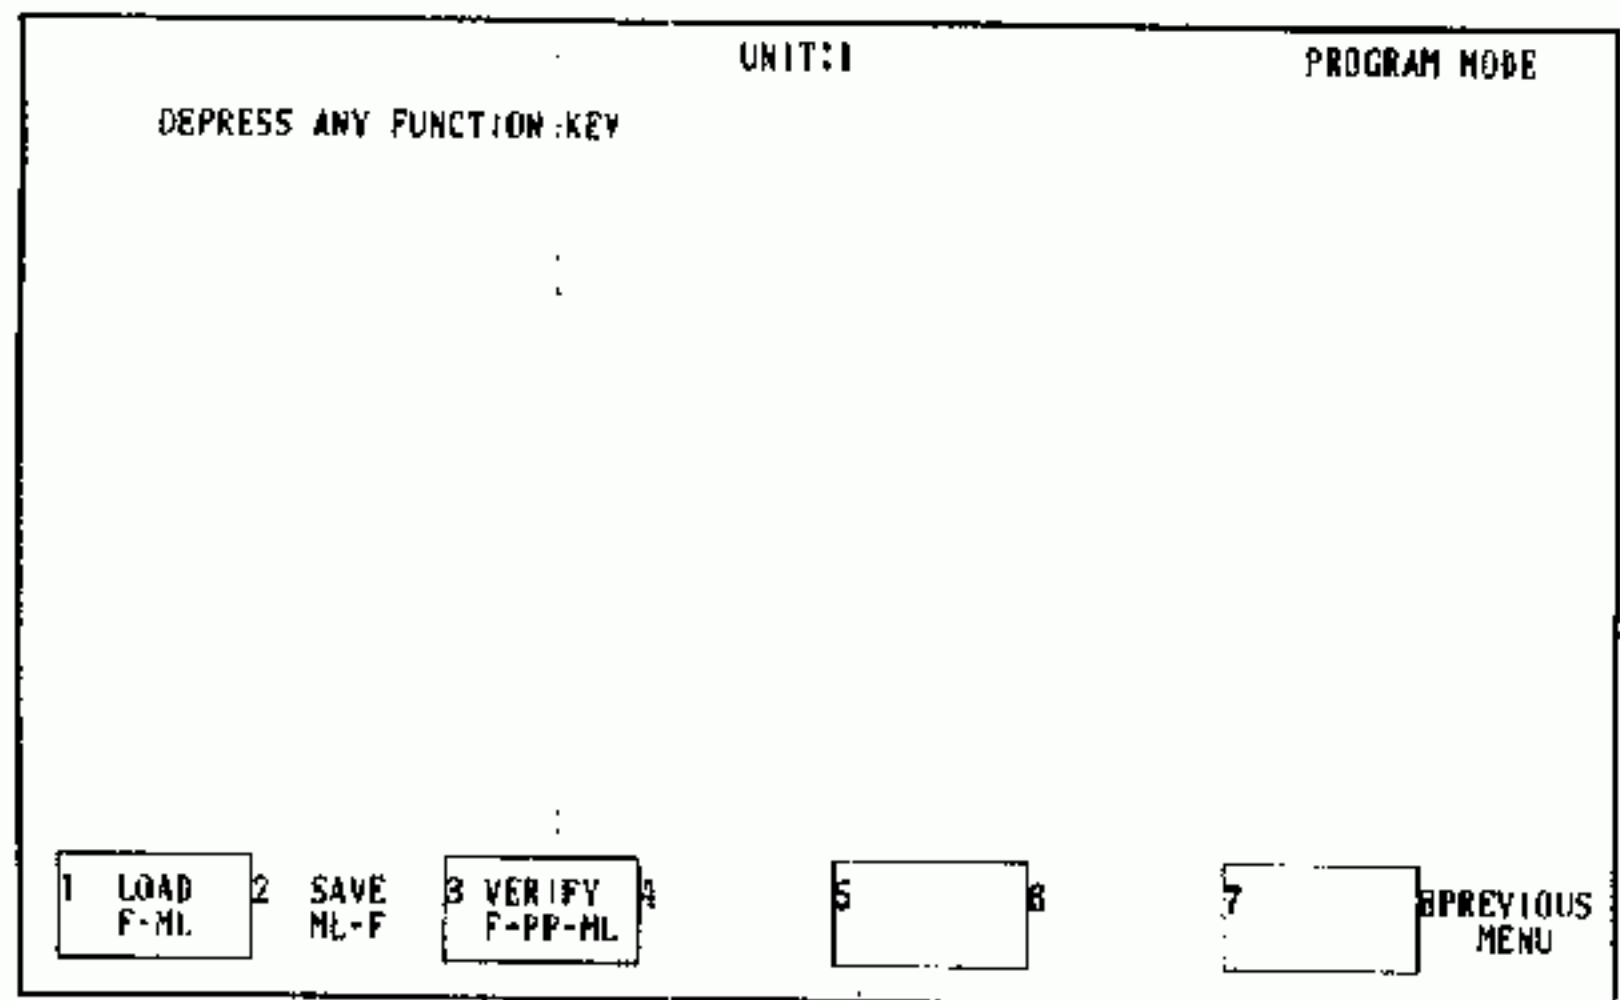

Fig. 5.2.104
3. Depressing "CANCEL" key restores the state as shown in Fig. 5.2.104.
The labels shown in Fig. 5.2.109 are displayed. Depressing "PROCEED" key causes the saving process to resume, and depressing "ABORT" key returns to the display as shown in Fig. 5.2.104.